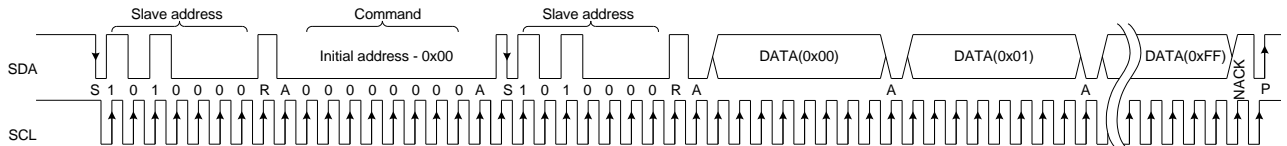

Figure 19 Whole EEPROM dump (SA = 0x50)
- Read the whole EEPROM (see Figure 19). For maximum speed performance Heimann Sensor recommends that the whole calibration data is stored into the client MCU RAM. However it is possible to read the calibration data from the EEPROM only when needed. This will result in increased time for temperature calculation i.e. low refresh rate.